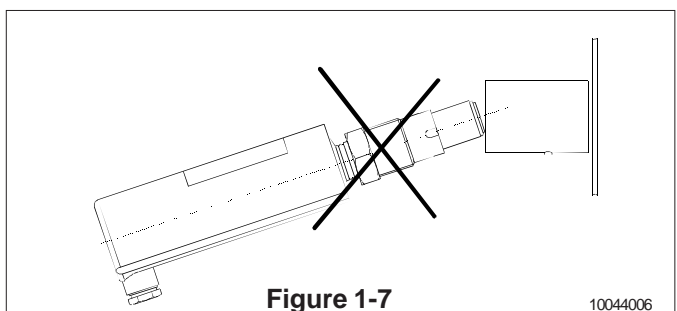

Figure 1-7
- Insert the transmitter **in a straight line** into the coupling (Fig. 1-7), so that the guide groove on the transmitter aligns with the stop pin on the coupling. The transmitter settles into position when the groove and pin are aligned, and will be prevented from rotating in the coupling.